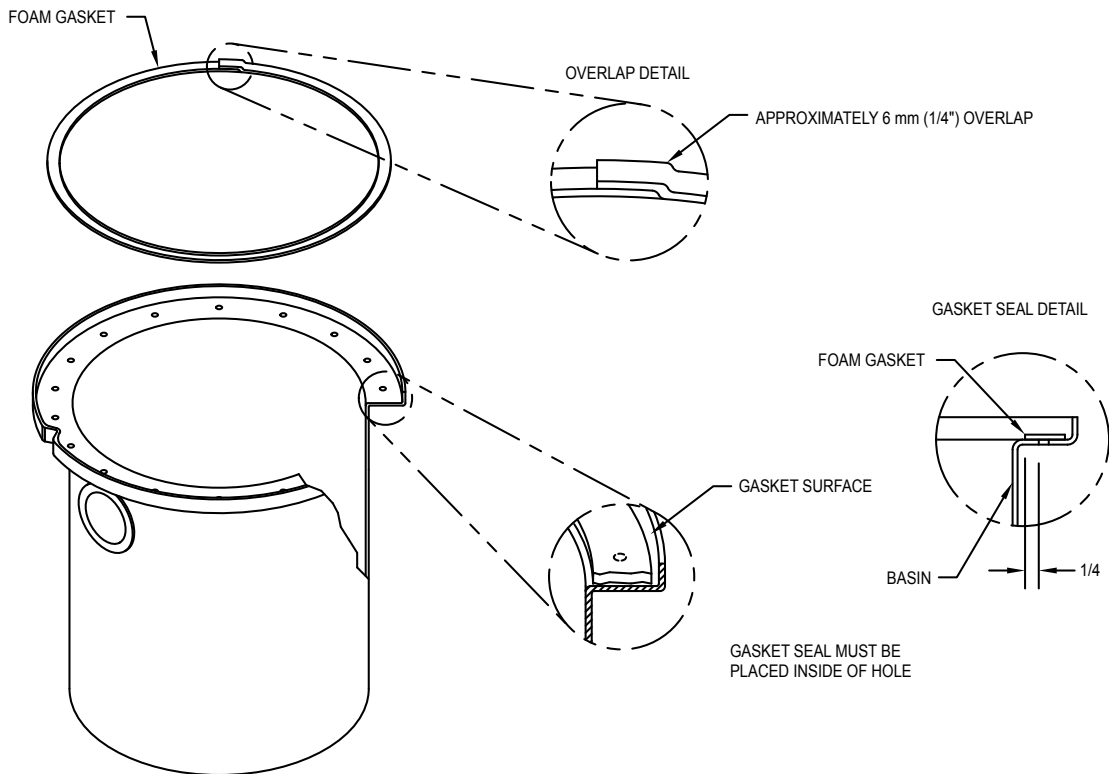

Figure 4.1
- 4.1) Install the foam gasket on to the "gasket surface" at the top of the basin, refer to Figure 4.1 for details.